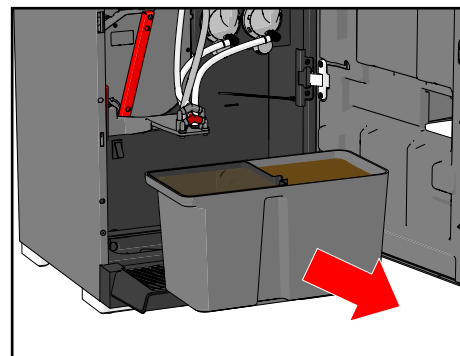

Figure 33.
3. Remove the waste bucket and empty it (see Figure 33). Also throw away the waste water from the spill container.
17. Remove and empty the waste bucket (see Figure 33).